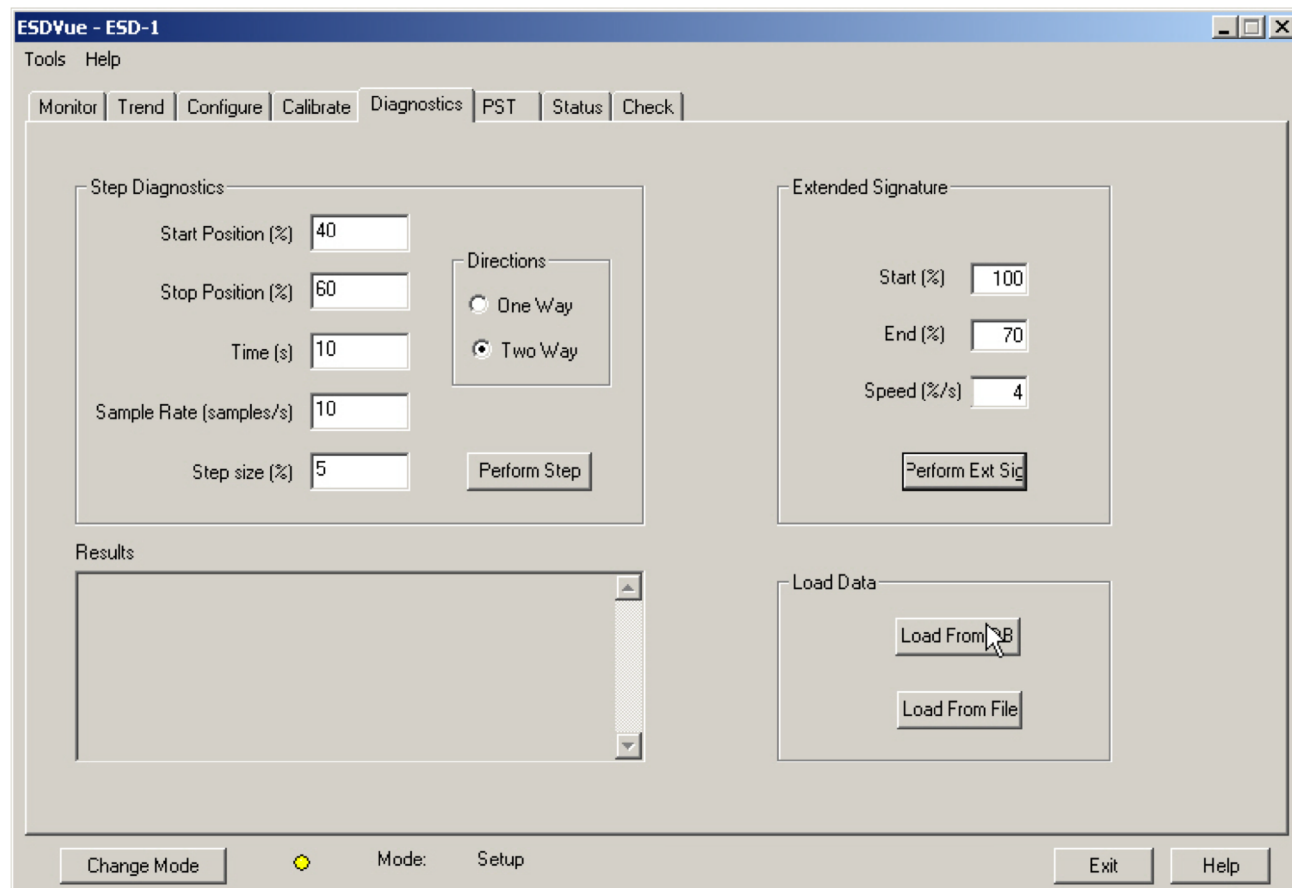

Figure 227 - Selecting Load From DB
1. Click **Load From DB** (*Figure 227*).